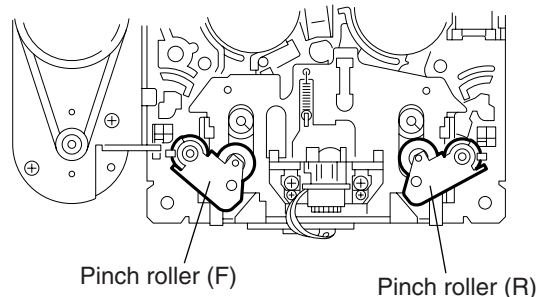

Fig.6
■ Removing the pinch roller (F) and (R) (See Fig.6 to 8)
- Prior to performing the following procedure, remove the side bracket (L), (R), cassette hanger assembly / cassette holder.